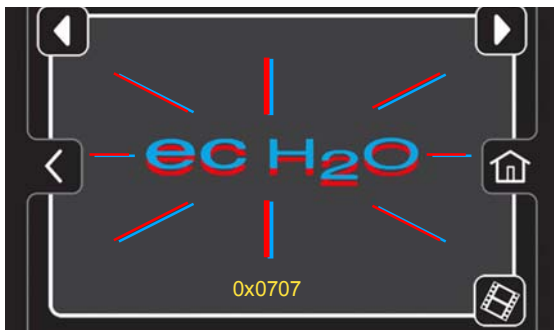

FIG. 76
**Flashing Blue and Red ec-H2O Screen** (Figure 76) - The water conditioning cartridge has expired. See ec-H2O WATER CONDITIONING CARTRIDGE REPLACEMENT.